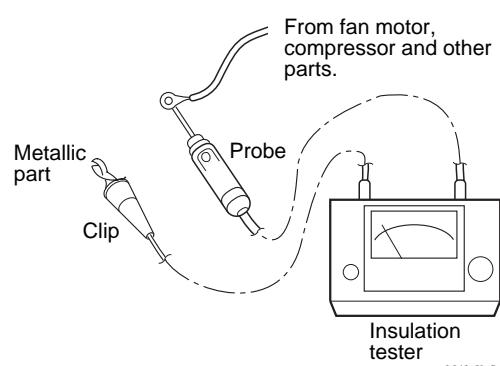

Fig. 28
- Similarly, disconnect the lead wires from compressor, capacitor, etc. (**Fig. 28**)